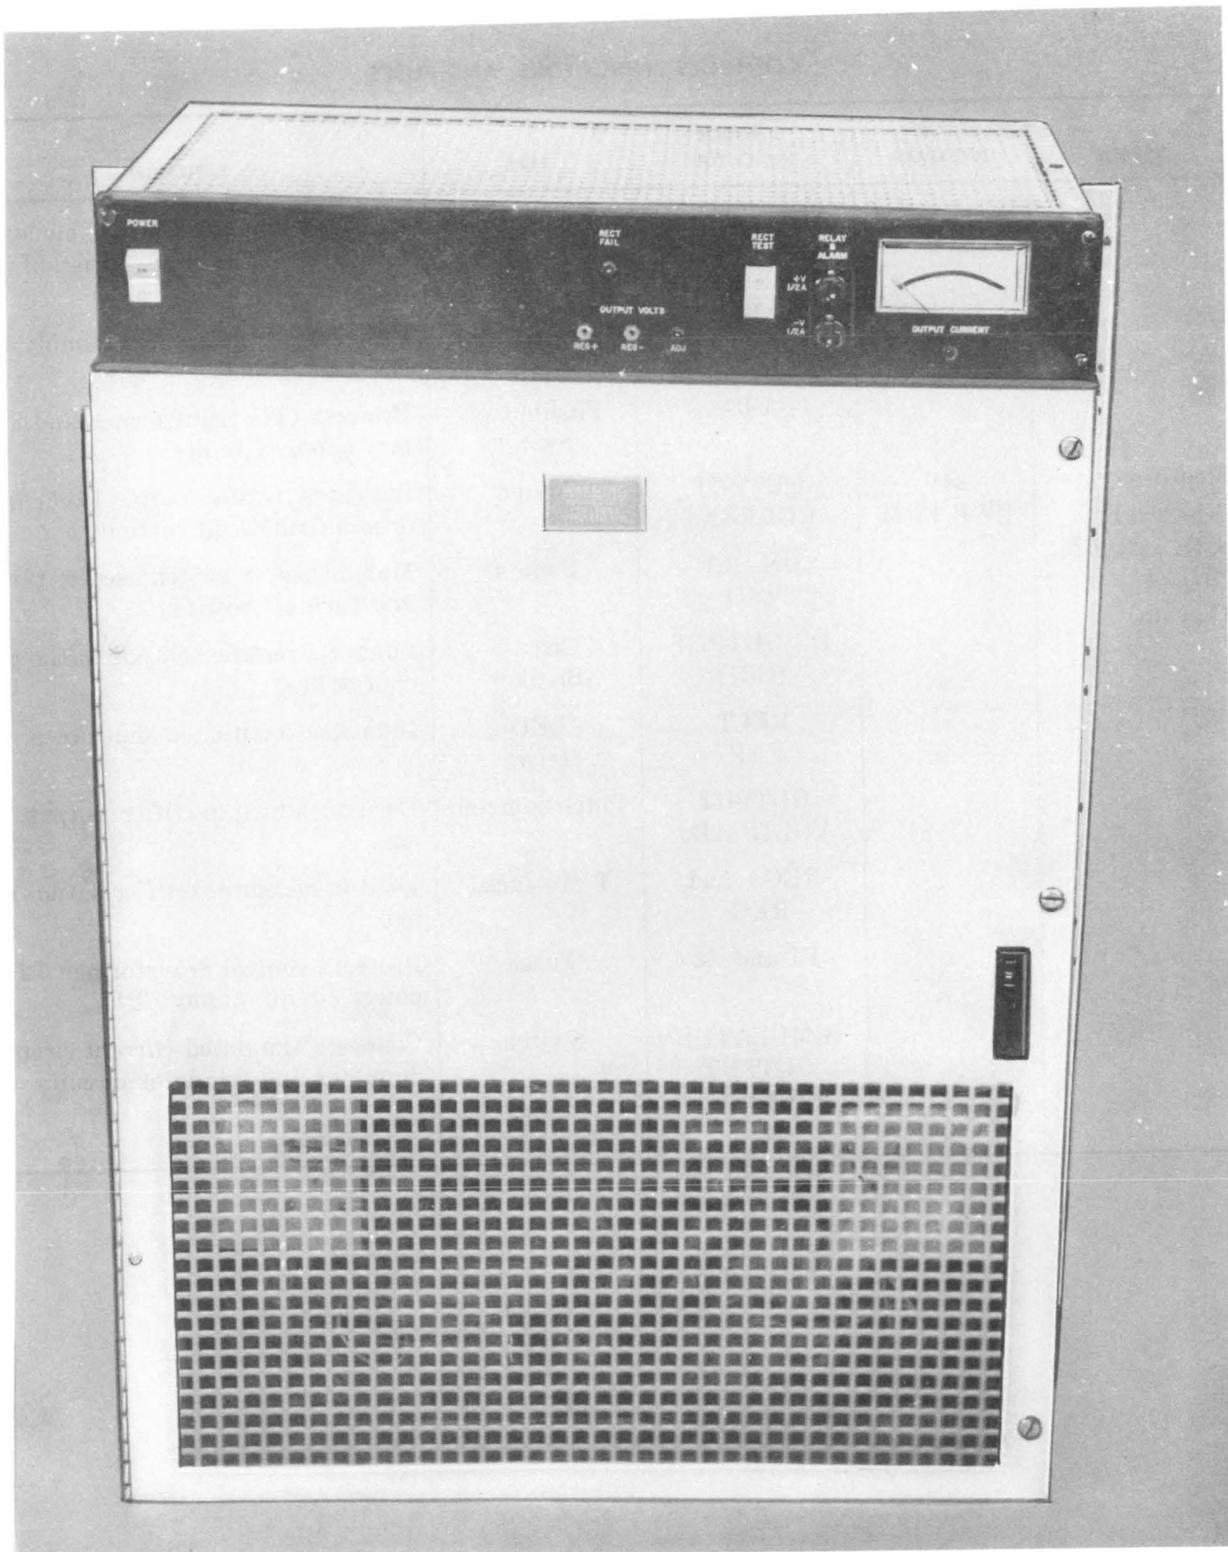

Fig. 3—J87436A, L1 and L3, or L2 and L3, Rectifier
**2.04** The rectifier control panel holds the ON-OFF and test switches, the output voltage adjust potentiometer, the internal sense lead fuses (+V and -V), and the output ammeter (Fig. 3 and 4). The panel